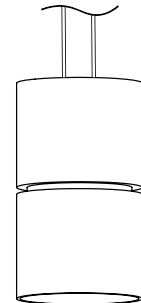

Fig. 4
3. Align **Height Adjustable Single Cable Luminaire Hanger** with **Power Bar** and press up on the bottom of the Hanger, while pressing down firmly on the top of the Power Bars until the Hanger clicks into place. (Fig. 4)